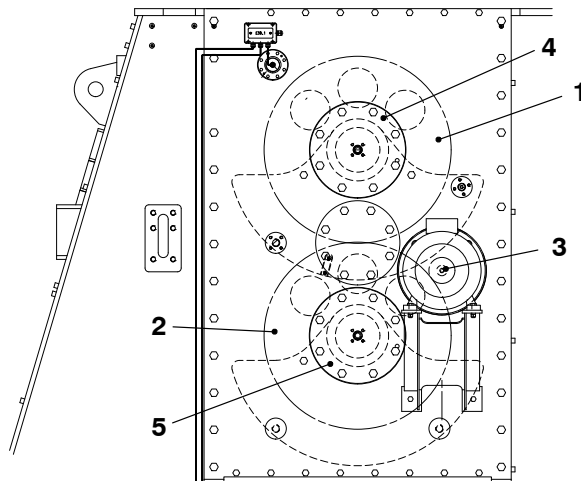

Fig. 15
- 9) If the backlash of the bottom gear wheel (2, Fig. 15) and the electric motor pinion (3) is in the permitted tolerance, do as follows: